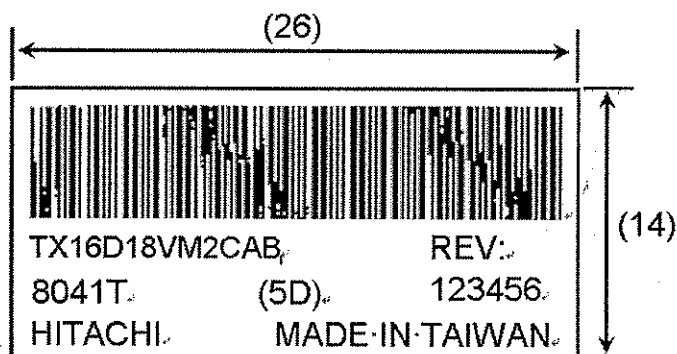

Fig 13.3
- 4) The location of the lot mark is on the back of the display shown in Fig. 13.3.